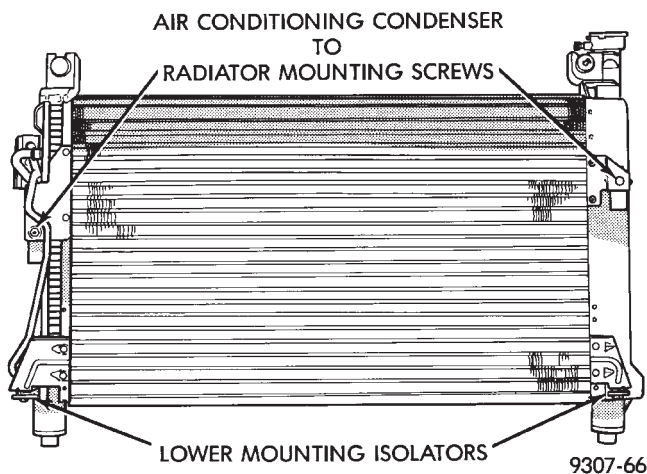
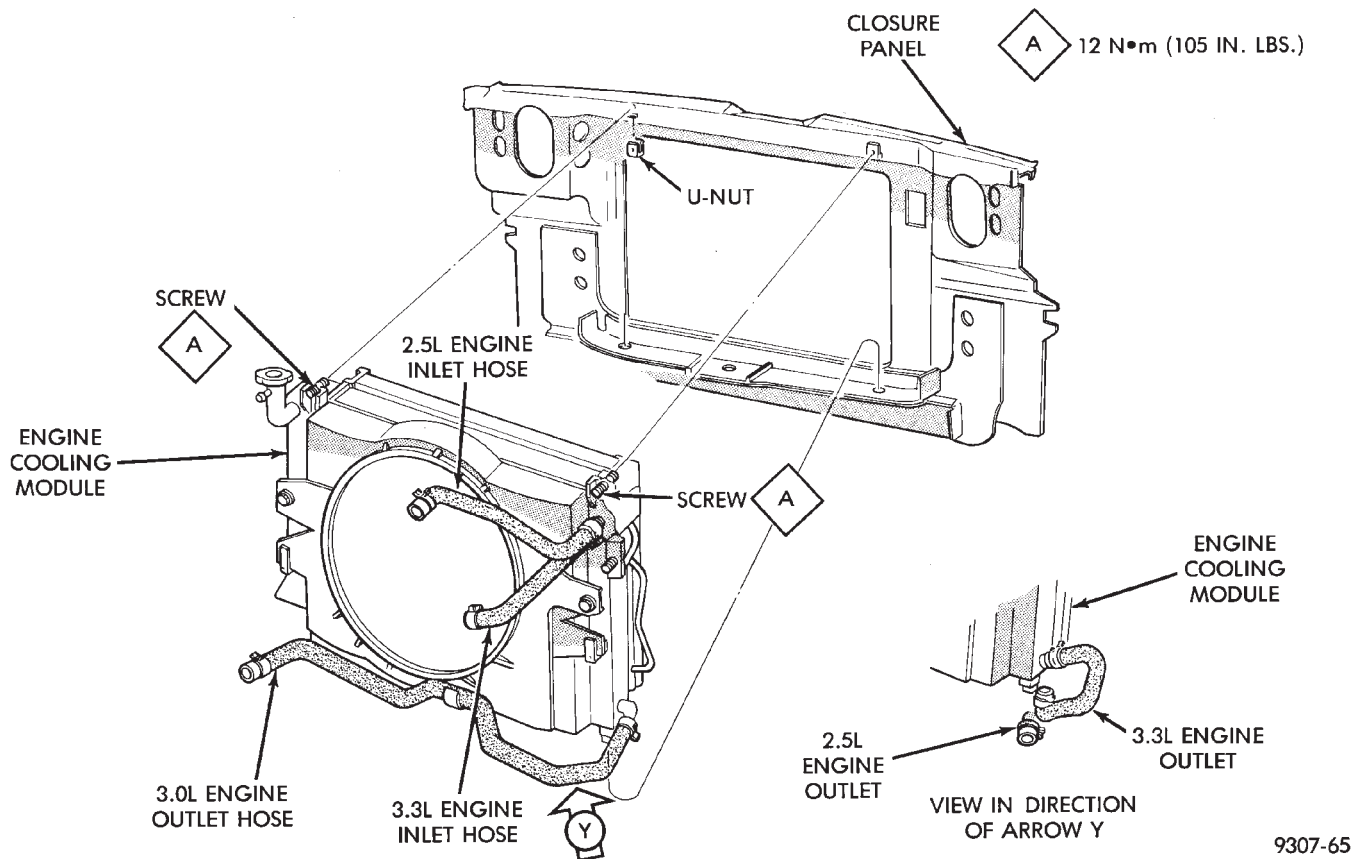

Fig. 3 Air Conditioning Condenser Mounting Screws INSTALLATION
Fig. 4 Engine Cooling Module Mounting
(2) Drain cooling system. Refer to Draining Cooling System of this section.
(3) Remove hose clamps and hoses from the radiator (Fig. 4).
(4) Remove automatic transmission hoses, if equipped.
(5) Remove fan and fan support assembly by disconnecting fan motor electrical connector. Remove upper shroud fasteners, and lift shroud up and out of bottom shroud attachment clips separating shroud from radiator. Fan damage should always be avoided.
(6) Remove front grille. Refer to Group 23 Body for procedure.
(7) Remove A/C condenser fasteners and separate the condenser from the radiator (Fig. 3).
(8) Remove upper radiator mounting screws (Fig. 4). Disconnect the engine block heater wire if equipped.
(9) Radiator can now be lifted free from engine compartment. **Care should be taken not to damage radiator cooling fins or water tubes during removal.**
(1) Slide radiator down into position behind radiator support (yoke). Seat the radiator with the rubber isolators into the mount holes provided, with a 10 lbs. force .
(2) Install the upper radiator mounting screws. Tighten radiator mounting bolts to 12 N•m (105 in. lbs.) (Fig. 4).
(3) Install Air Conditioning Condenser onto the radiator (Fig. 3).
(4) Install front grille. Refer to Group 23 Body for procedure.
(5) Connect automatic transmission hoses (if equipped).
(6) Slide fan shroud, fan and motor down into clips on lower radiator tank. Attach upper shroud screws.
(7) Install upper, lower radiator hoses (including coolant reserve hose) (Fig. 4) and fan motor electrical connection. See **Refilling Cooling Systems**.